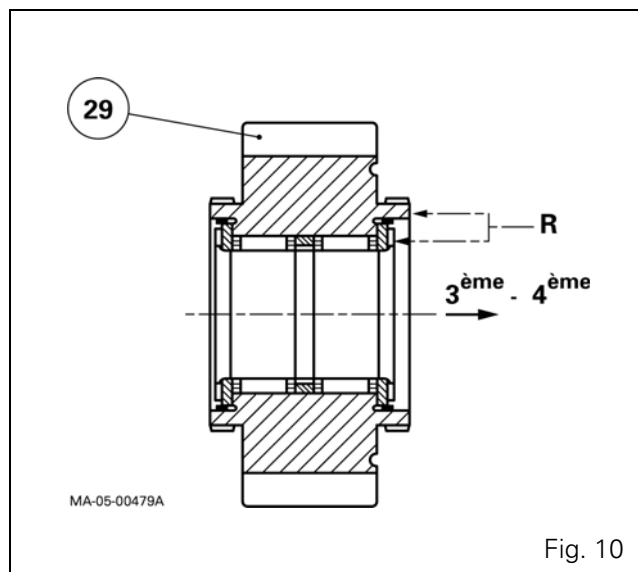
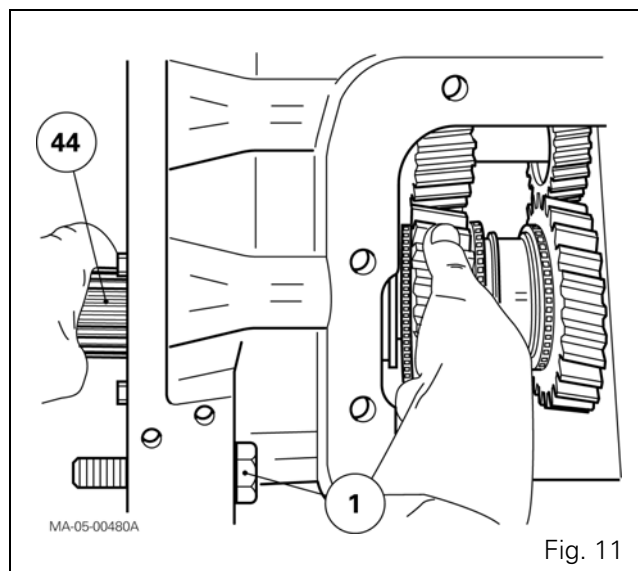

Fig. 10
Fig. 11
- the 3rd driving gear (29) fitted with the needle roller bearings (28) (30) (recess "R" facing towards the 3rd-4th synchroniser (Fig. 10));
- the synchroniser (31).**REMINDER:** The needle roller bearings (28) (30) are force-fitted and are separated by a spacer (80).
41. Fit the output shaft (44) while holding the gear assembly (Fig. 11).
60. Refit the selector cover plate (see chapter 5), by first checking for the presence of the screw (1) (Fig. 11).